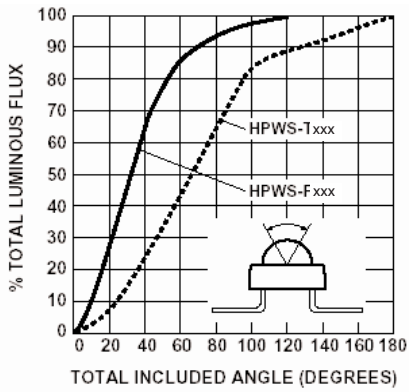

Figure 5. HPWS-xxxx Percent Total Luminous Flux vs. Total Included Angle.
- $\theta_{0.90V}$  is the included angle at which 90% of the total luminous flux is captured. See Figure 5.
4.  $\theta_{0.90 V}$  is the included angle at which 90% of the total luminous flux is captured. See Figure 5.